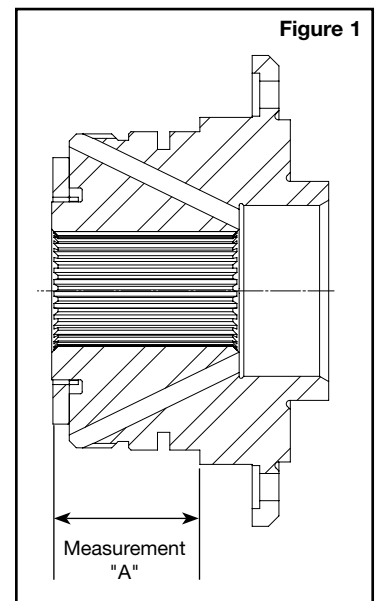

Figure 1
- Measure from shoulder of turbine hub to thrust face of bearing ("A" in Figure 1).